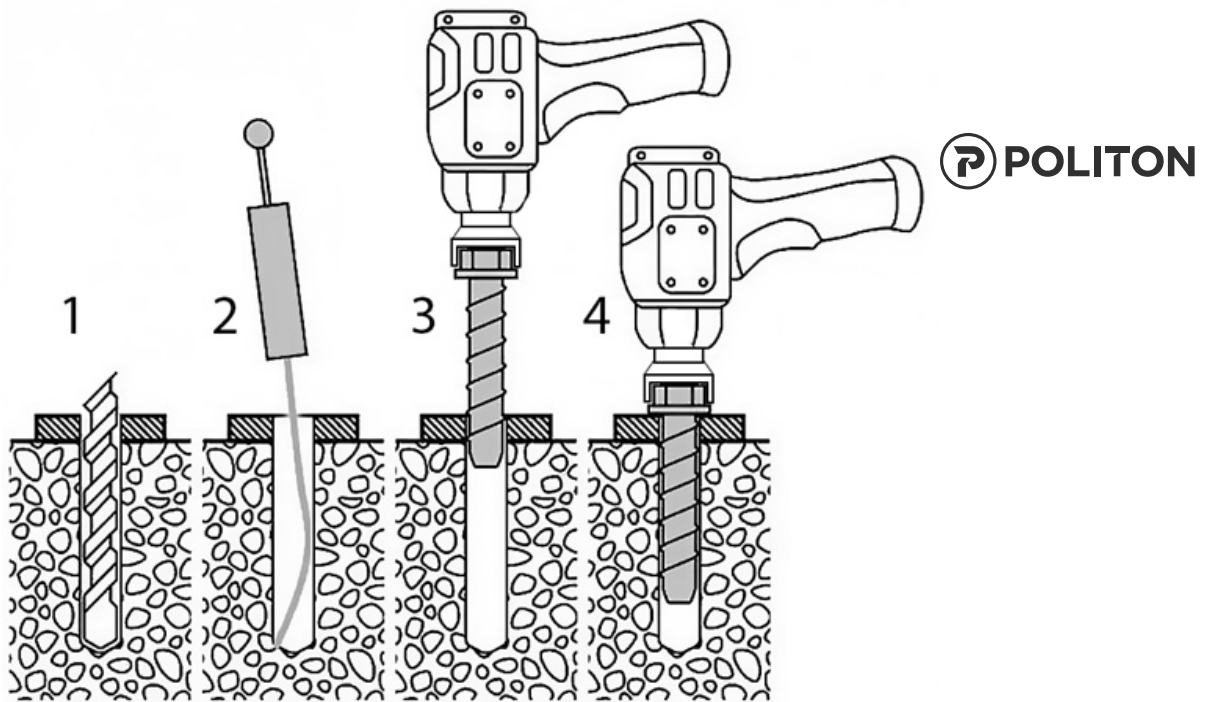

Figure 8.1 Installing and fixing pole covers
5. After assembly, the barrier must be fixed to the foundation with self-tapping anchors, which are supplied as component parts. To mark the holes, it is recommended to use the holes in the metal supports of the barrier as templates. After marking, before drilling the floor, we recommend putting the supports aside. Drilling should be performed with a 10 mm drill bit to a depth of at least 100 mm (Fig. 8.1). If larger diameter drill bits are used, the anchor will lose its efficiency during the barrier service. Drilling products must be removed from the holes in the foundation (Fig. 8.2). Install the barrier posts in loco and tighten the anchors. The correctly installed self-tapping anchor will screw in tightly, so it is recommended to use an impact wrench with a flexible shaft (Fig. 4.3 and 4.4). (Fig. 8.3 and 8.4). The impact wrench for screwing the self-tapping anchors which are supplied as component parts must provide a torque of 950 Nm and higher.